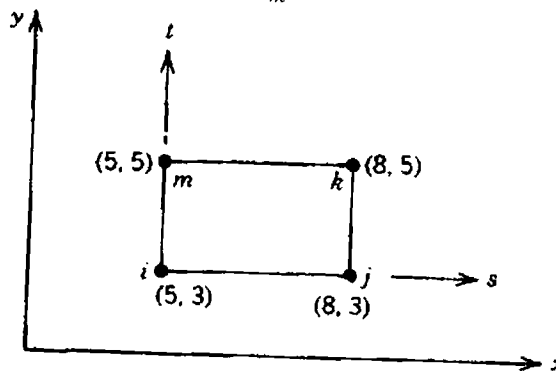

Figure 4 Nodal coordinates of the rectangular element
13. (a) Determine three points on the 50°C contour line for the rectangular element shown in the Figure 4. The nodal values are  $\Phi_i = 42^\circ\text{C}$ ,  $\Phi_j = 54^\circ\text{C}$ ,  $\Phi_k = 56^\circ\text{C}$  and  $\Phi_m = 46^\circ\text{C}$ .